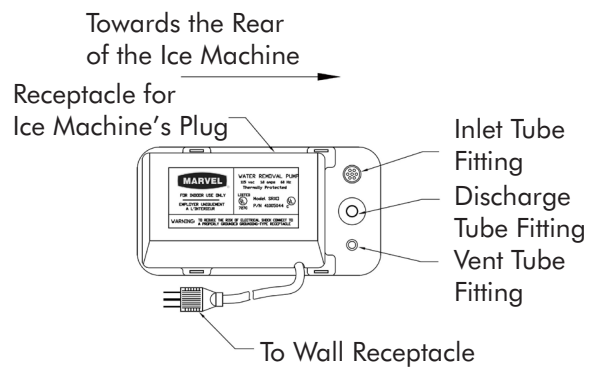
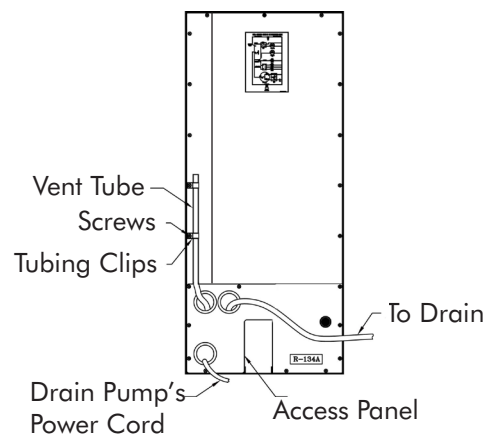

Figure 7
Figure 8
2. Plug the ice machine's power plug into the outlet on the drain pump. Place the drain pump in the left, rear opening of the ice machine with the inlet, vent, and discharge fittings to the rear of the unit (see Figure 7).
4. Connect the 18 in. x 3/8 in. I.D. formed vent tube to the vent on the drain pump and secure with one (1) of the small tubing clamps.
6. Route the vent tube and the drain pump power cord through the remaining openings in the access panel as shown in Figure 8. Reinstall the panel and secure.
7. Secure the vent tube to the back of the ice machine using the supplied tubing clips and screws as shown in Figure 8.